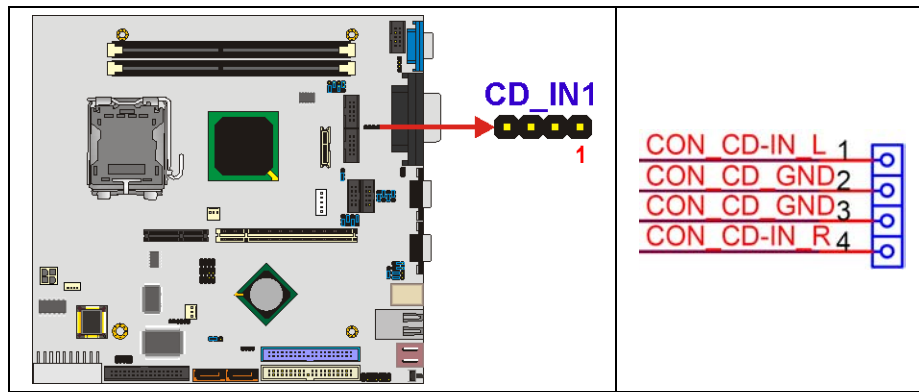

Figure 3-5: Audio CD In Connector Location
- CN Location:** See Figure 3-5